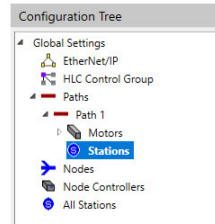

Figure 4-120: Configuration Tree with Stations Selected
3. In the Configuration Tree, select **Stations**, see Figure 4-120.